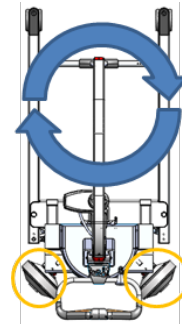

Figure 2. Rotation
**When manoeuvring in confined areas** the rear castor wheel function can be used to advantage. Manoeuvre the lift as far as possible at this setting, then press the button for rear wheel adjustment and hold it pressed in until the desired wheel angle is obtained, see Fig. 2. The yellow LED light on the control panel indicates that the wheels are in the turned position. Grasp the handlebar and hold in the safety switch, then turn the lift in the desired direction to rotate.